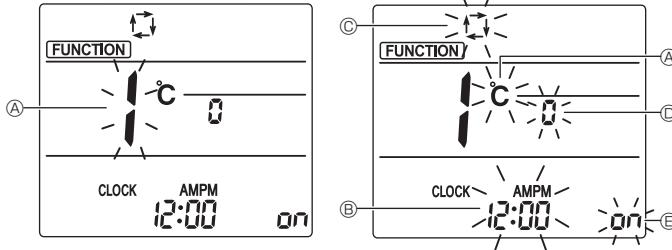

Fig. 5-11
3. Check that function No. "1" is displayed, and then press the **SET** button ③. The Screen display setting screen will be displayed. (Fig. 5-11)
5.12.2. Changing the temperature unit (Fig. 5-11 Ⓐ)
5.12.3. Changing the time display (Fig. 5-11 Ⓑ)
5.12.4. Changing the AUTO mode (Fig. 5-11 Ⓒ)
5.12.5. Changing the pair No. (Fig. 5-11 Ⓓ)